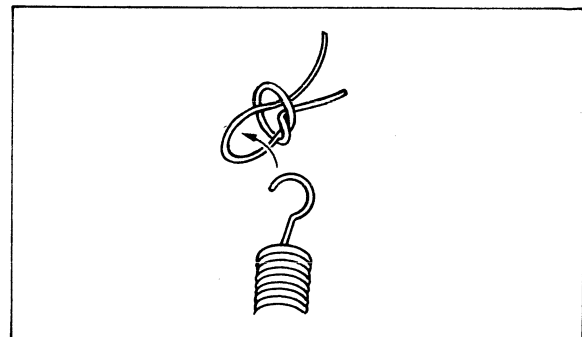

Fig. 2-7 Tying square knot to the coil spring
3. Tie the end of the cord to a spring as shown in Fig. 2-7.